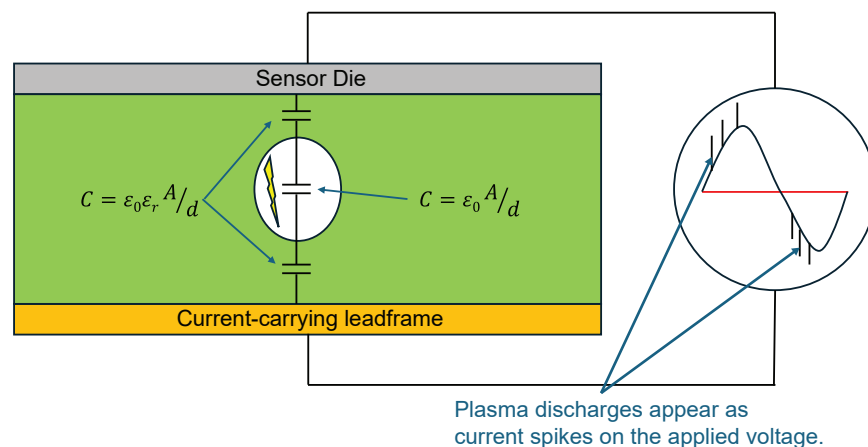

Figure 6: Partial discharge in voids
**Partial discharge:** Partial discharge is a wear-out mechanism that occurs whenever there is interface between high and low breakdown media. The discharges occur in solid insulation if there are voids or discontinuities in insulation materials such as layers of mold compound and polyimide cemented together. Voids can be treated like a small capacitor in the middle of the solid insulation filled with air, as shown in Figure 6. Since the air has a much lower permittivity than the mold compound around it, its capacitance is lower. In a set of series capacitors, the lower capacitance will have higher voltage across it. The void has higher electric fields than the surrounding solid insulation. Voids are filled with a significantly lower breakdown material: air. This leads the air inside of a void to breakdown and creates a plasma discharge which enlarges the void. This eventually extends the void through the remaining solid insulation and creates a low-resistance path through the insulation which causes breakdown of the insulating material.